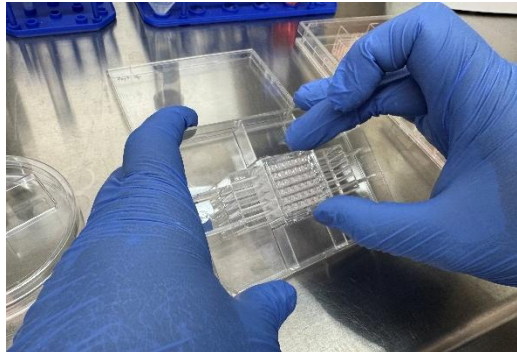

Figure 9. Reinserting the pillar plate onto the perfusion plate after old medium removal.
26. Carefully remove the pillar plate from the 36PetriLid and reinsert it onto the corresponding perfusion plate (**Fig. 9**).